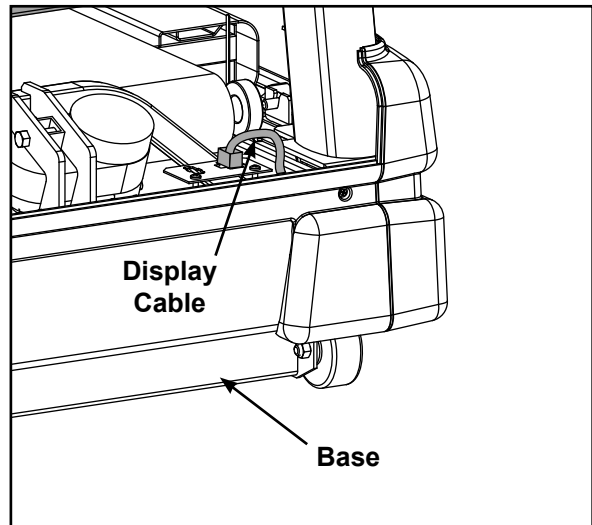

Figure 33
- Disconnect the display cable from the connector plate in the base. See Figure 33.
- Plug the display cable into the connector plate in the base. See Figure 33.